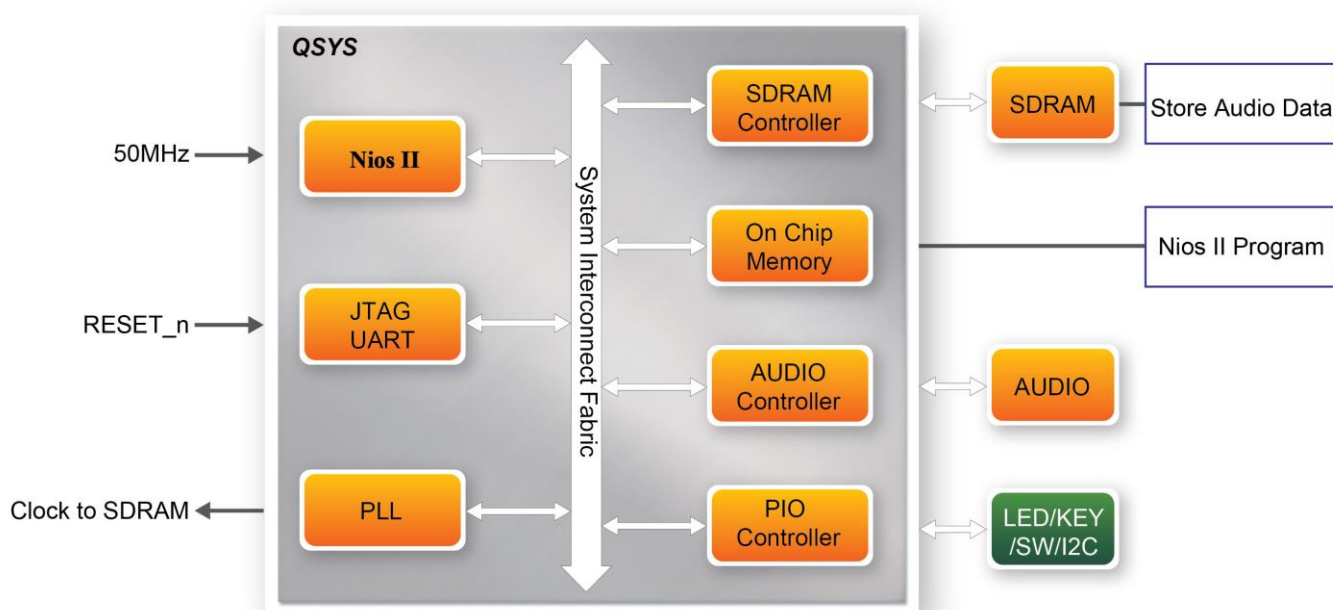

Figure 5-3 Block diagram of the audio recorder and player
**Figure 5-3** shows the block diagram of audio recorder and player design. There are hardware and software parts in the block diagram. The software part stores the Nios II program in the on-chip memory. The software part is built under Eclipse in C programming language. The hardware part is built under Qsys in Quartus II. The hardware part includes all the other blocks such as the “AUDIO Controller”, which is a user-defined Qsys component and it is designed to send audio data to the audio chip or receive audio data from the audio chip.